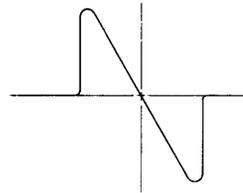

Figure 3-1B. FM S-Curve Waveform
4. Shift the oscilloscope vertical cable from TP2 to TP3. Adjust IFT4 to obtain an S-curve waveform as shown in figure 3-1B, with good upper/lower symmetry by adjusting the black core. For good linearity in the middle portion of the waveform adjust the blue core of IFT4.